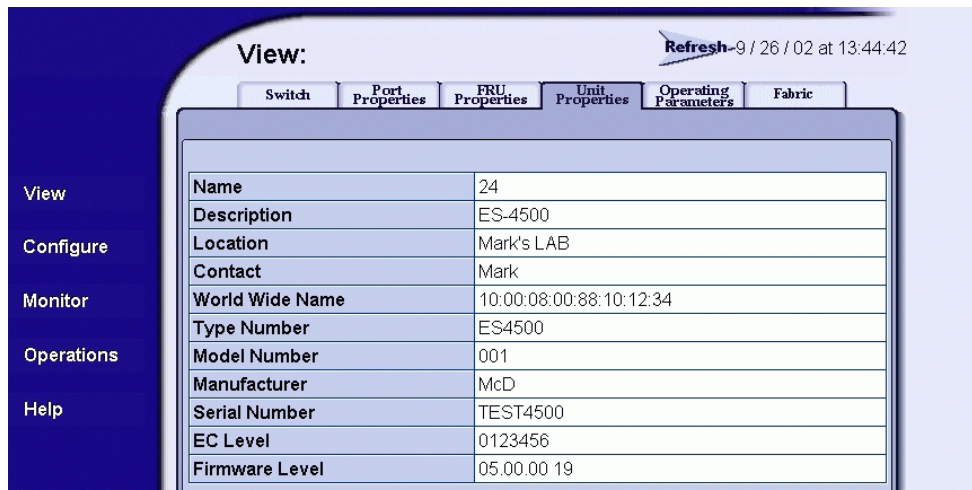

Figure 4-48 View Panel (Unit Properties Page)
1. When the SANpilot interface opens, the *View* panel and *Switch* page appear as the default. At the *View* panel, click the *Unit Properties* tab. The *Unit Properties* page displays (Figure 4-48).